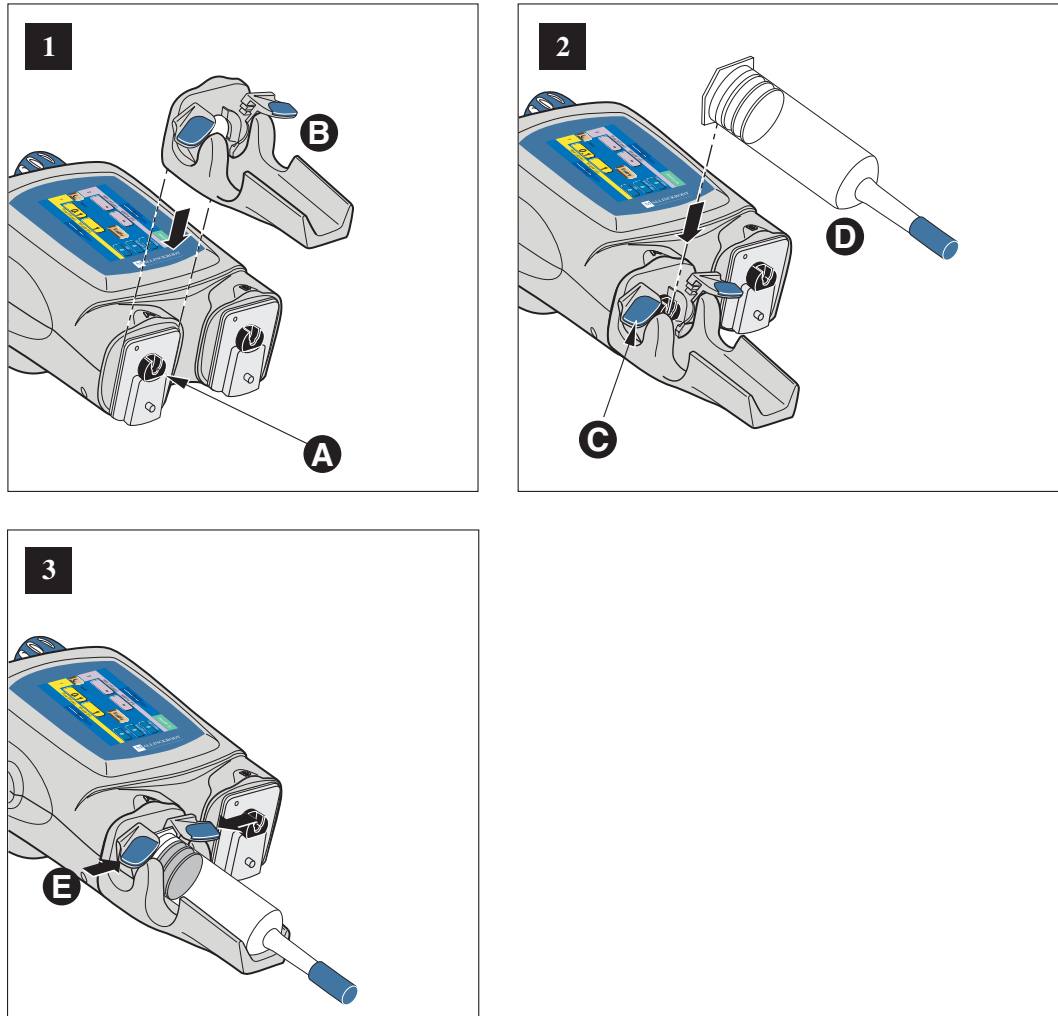

Figure 4-2-1 Load 125 ml Syringe (A-Side Only)
Refer to Figure 4-2-1.
1. If the ram is not home, move to the fully retracted position **A**. Slide the 125 ml cradle **B** onto the desired front plate mount of the powerhead (A-side is shown in Figure 4-2-1). Press the [Continue] key on the powerhead display to allow the ram to move forward to lock the faceplate in place and home the ram.